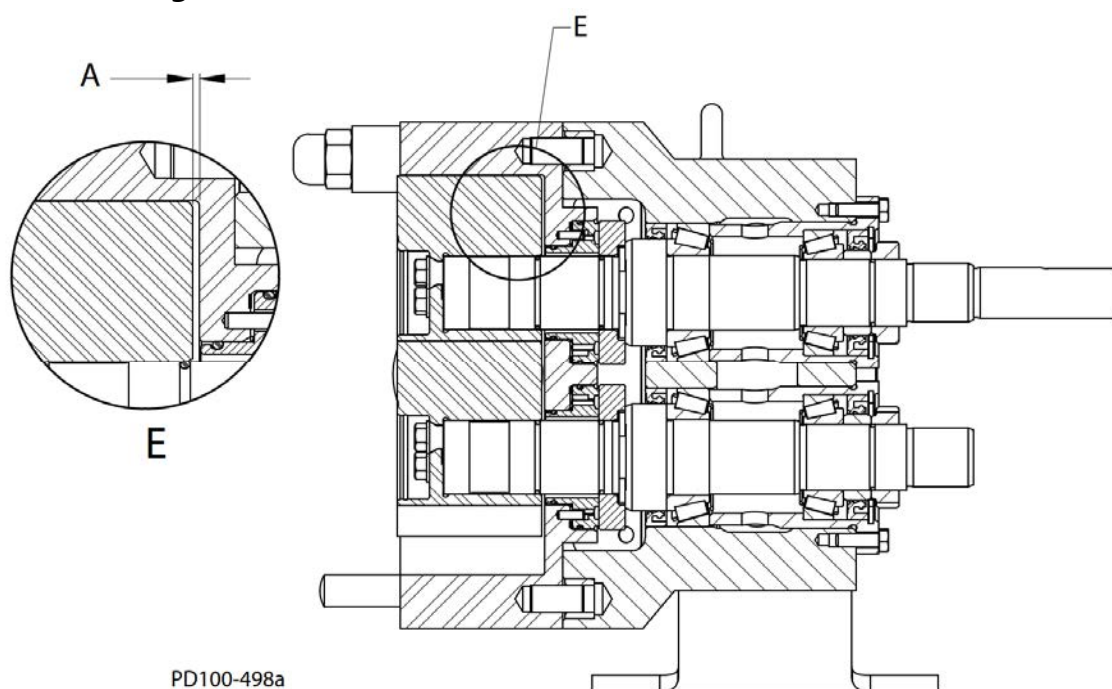

Fig. 57: Rotor to Body Clearance
1. Measure the clearance between the rotor and body as shown in Detail E, item A in Figure 57. Record this number.